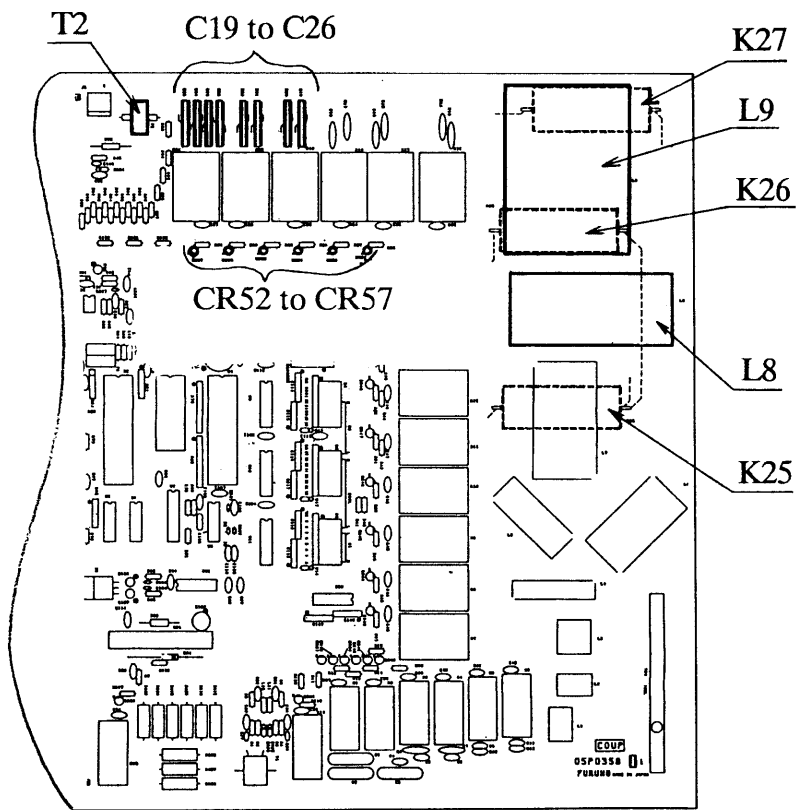

Fig. 2 COUP Board
[ K25 to K27, T2 (COUP PCB) ----- Fig. 2 ]
3. Observe the LEDs CR52 to CR57 (Fig. 2). Are they all OFF?
7. If there is sparking (due to insufficient antenna capacity), do either remedy (1) or remedy (2).